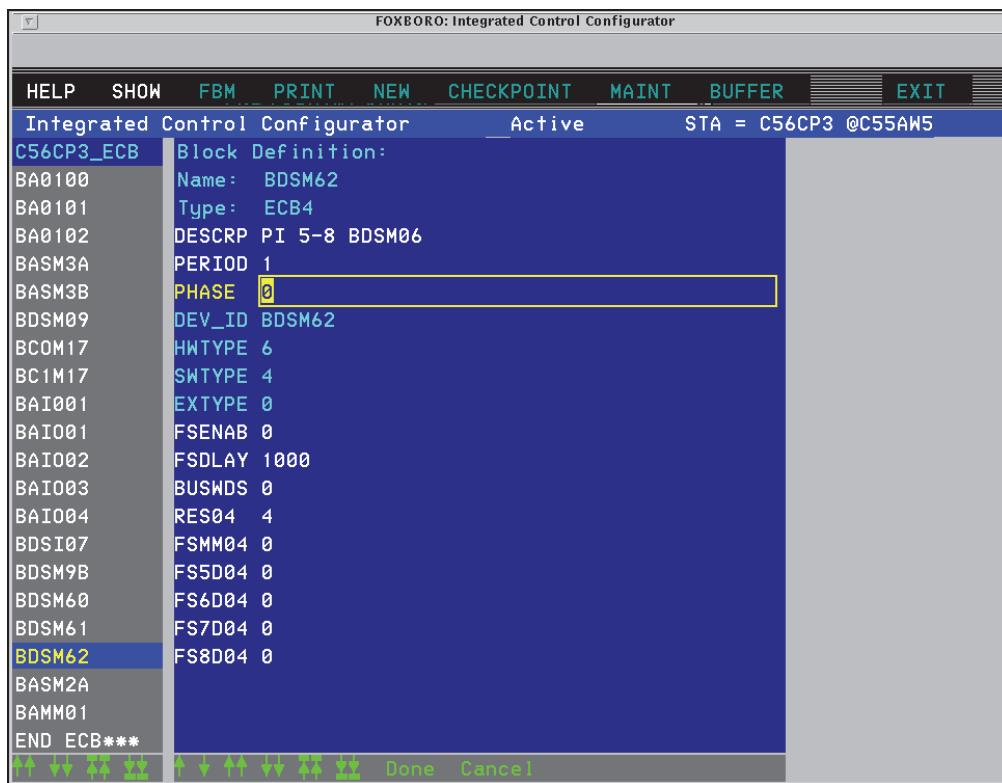

Figure D-12. Example Configuration, Second FBM06 ECB (BDSM62) for BDSM06 (SMDH)
- ◆ The last character of the second FBM06's ECB DEV_ID must be **2**, as shown in Figure D-12.